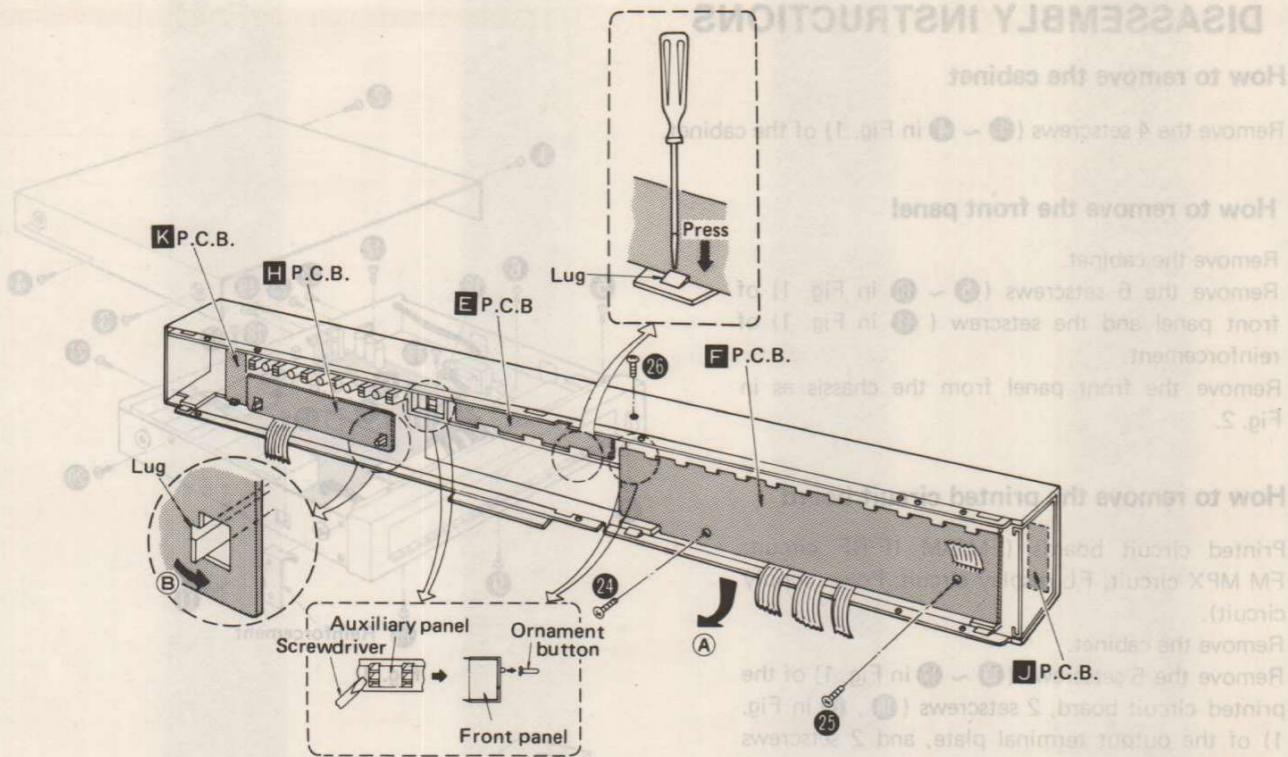

Fig. 4
2. Turn over the front panel as shown in Fig. 4.
3. Remove the 2 setscrews (24, 25 in Fig. 4) of the printed circuit board. Remove the board in the direction of the arrow (A).
Remove the printed circuit board by pressing the lugs (3 portions) with a screwdriver. (Fig. 4)
Remove the printed circuit board by shifting the lugs (2 portions) in the direction of the arrow (B). (Fig. 4)
Remove the printed circuit board in the same way as for H Printed circuit board. (Fig. 4)
3. Push the 2 ornament buttons with a screwdriver to remove them from the auxiliary panel (See Fig. 4).
4. Remove the setscrew (26 in Fig. 4) of auxiliary panel.